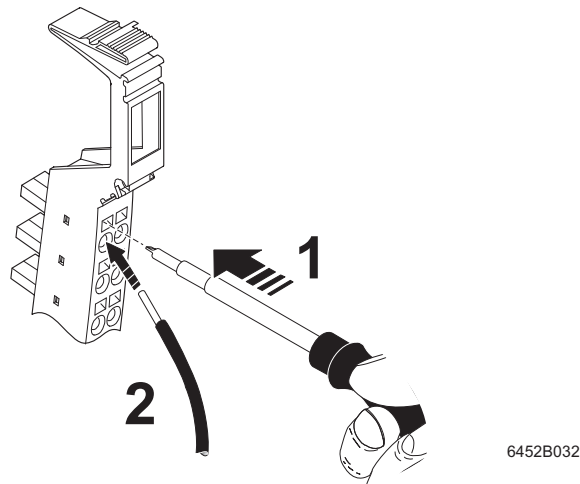

Figure 4-6 Connecting unshielded cables
- Push a screwdriver into the actuation shaft of the appropriate terminal point (Figure 4-6, detail 1), so that you can insert the conductor into the spring opening. Phoenix Contact recommends using a SZF 1 - 0.6X3.5 screwdriver (Order No. 1204517; see Phoenix Contact "CLIPLINE" part catalog).
- Insert the conductor in the corresponding terminal point of the connector (Figure 4-6, detail 2). Remove the screwdriver from the opening. This clamps the conductor.